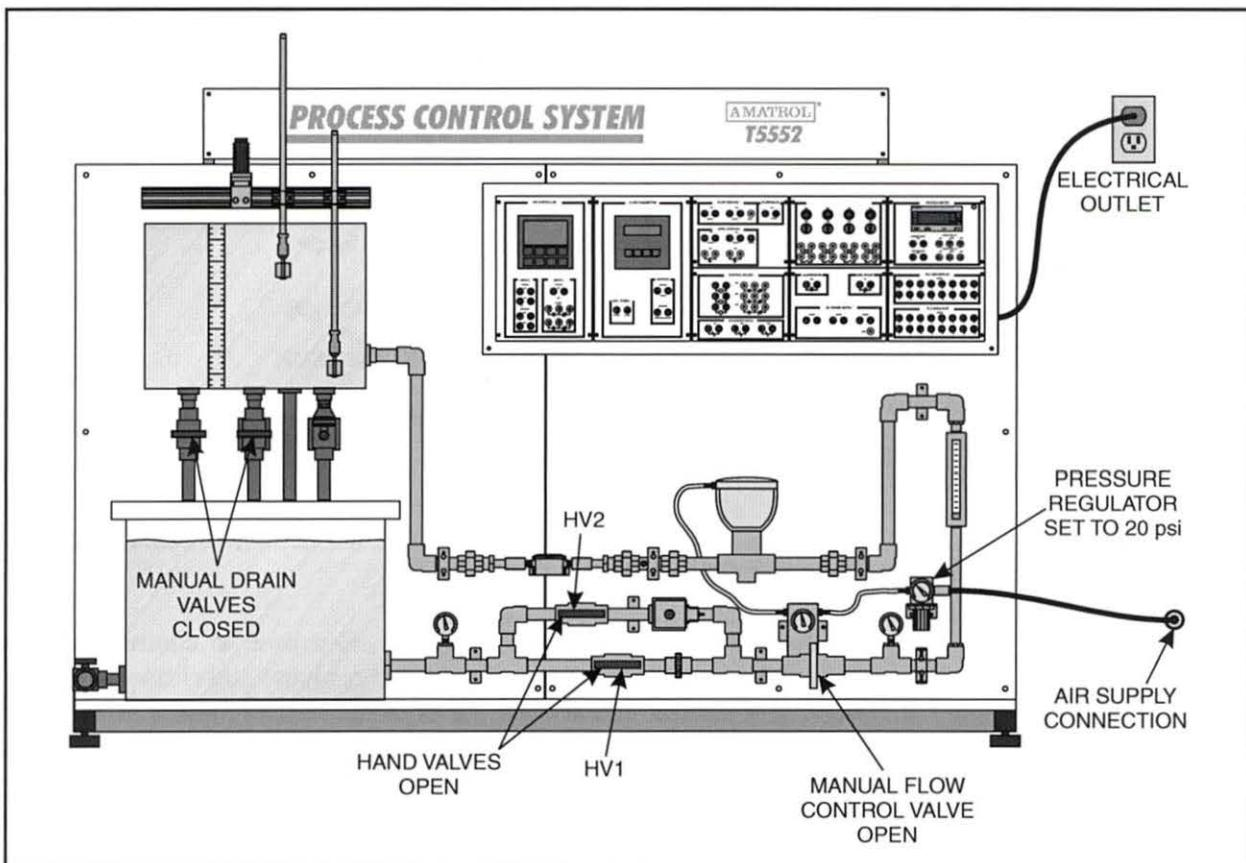

Figure 36. T5552 Setup
- 2. Perform the following substeps to set up the T5552, as shown in figure 36.